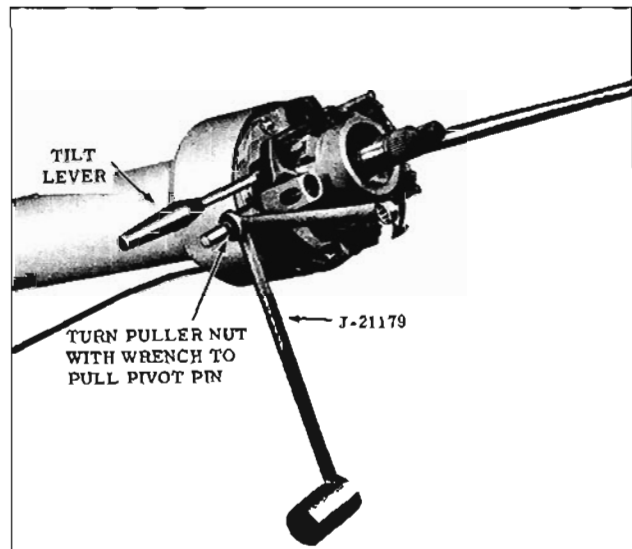

Fig. 8-98 Removing Actuator Housing Pivot Pins
8. Remove the two pivot pins with Tool J-21179. (Fig. 8-98)